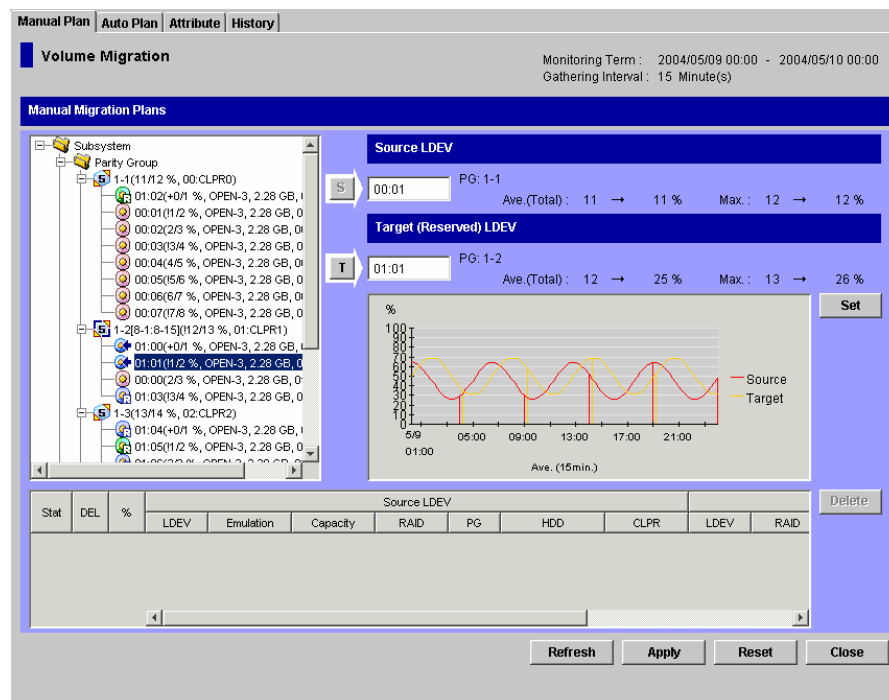

Figure 3.5 Specifying Migration Destination
5. Display the contents of the low-usage parity group and look for disk areas preceded by icons, as shown in Figure 3.5.
You can create multiple migration plans. When volume migration is finished, a volume to be migrated and a volume designated the migration destination will have replaced each other. For example in Figure 3.5, the logical volume 02:01 will be displayed in the parity group 1-1 and the logical volume 00:01 will be displayed in the parity group 1-4 at the upper-left tree. For more detailed information about Volume Migration, see section 7.4.